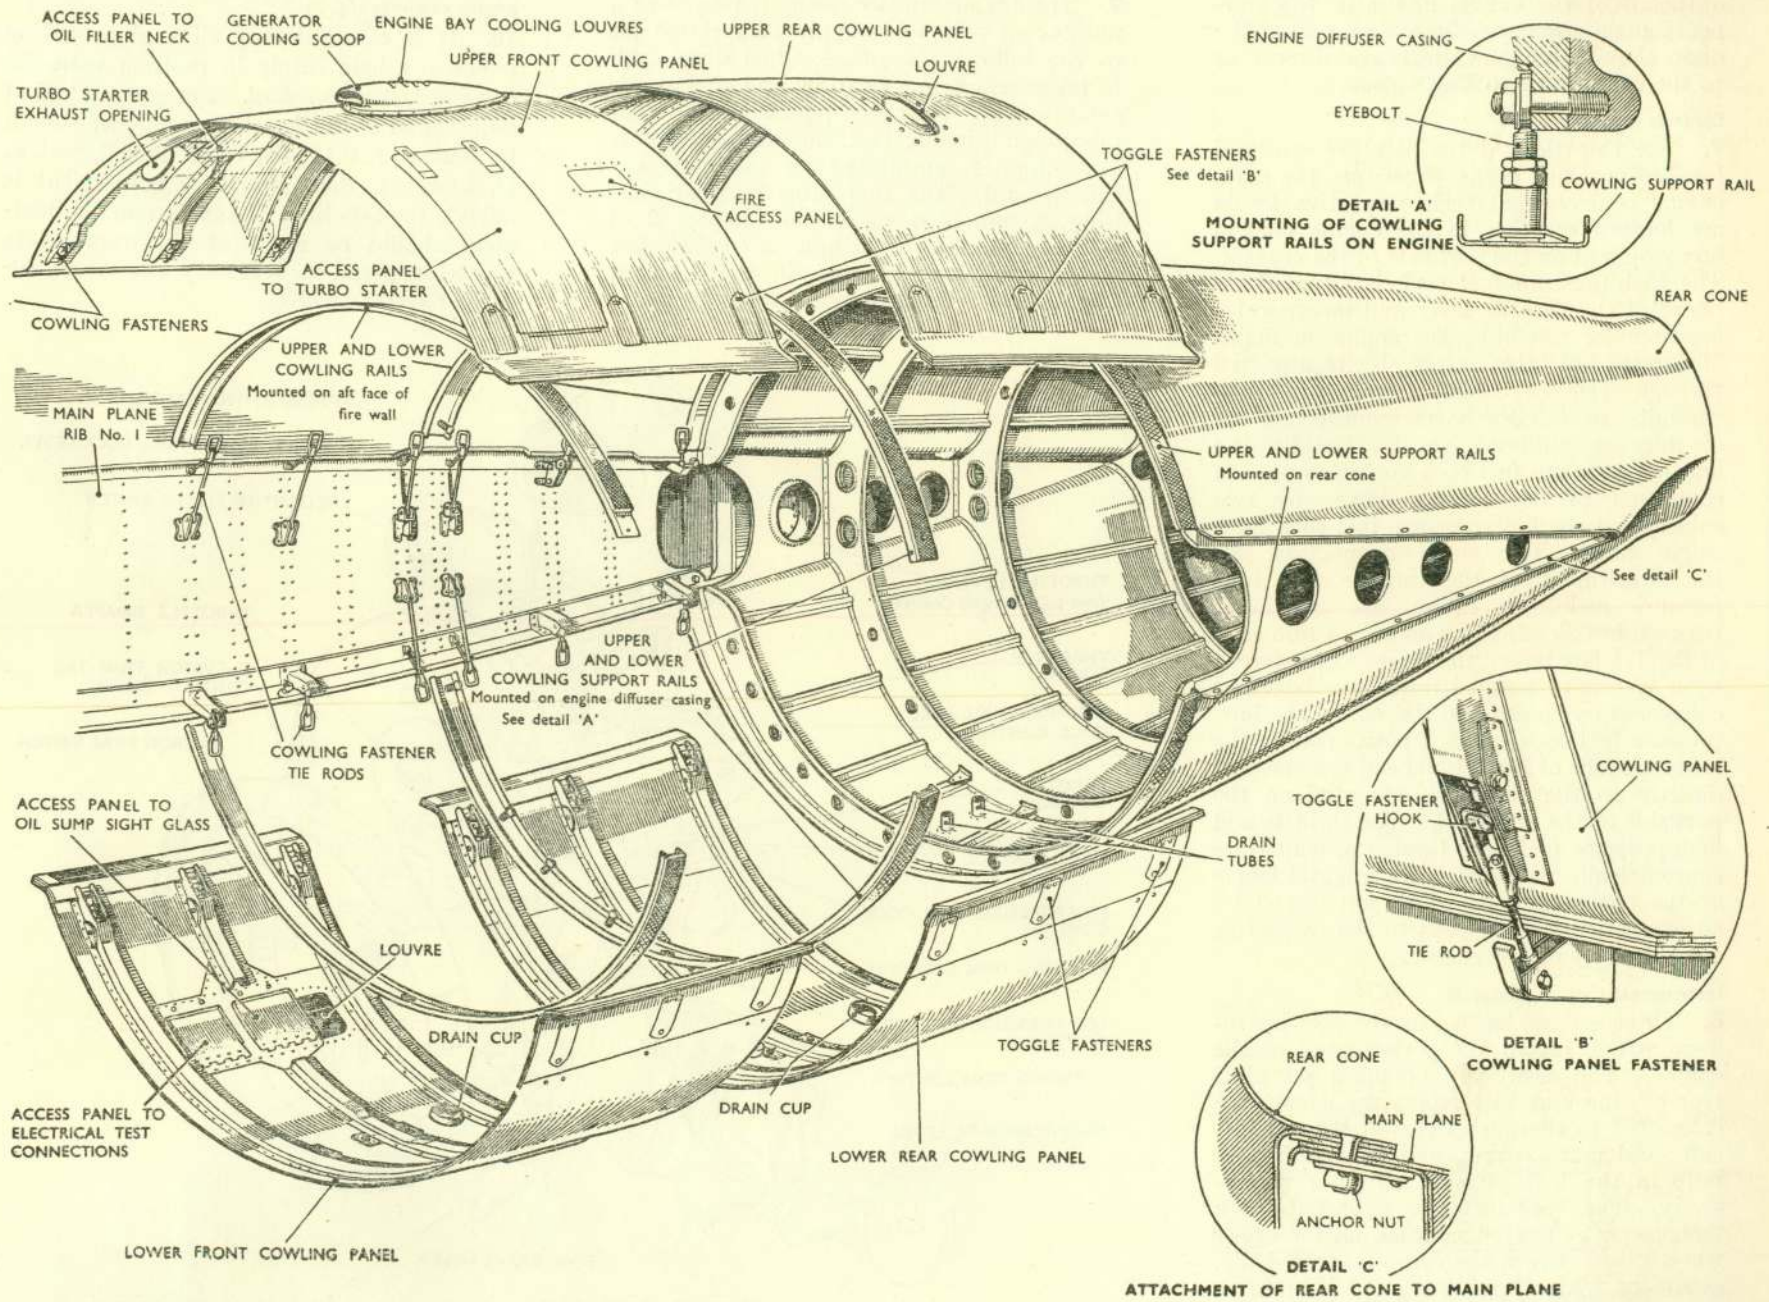
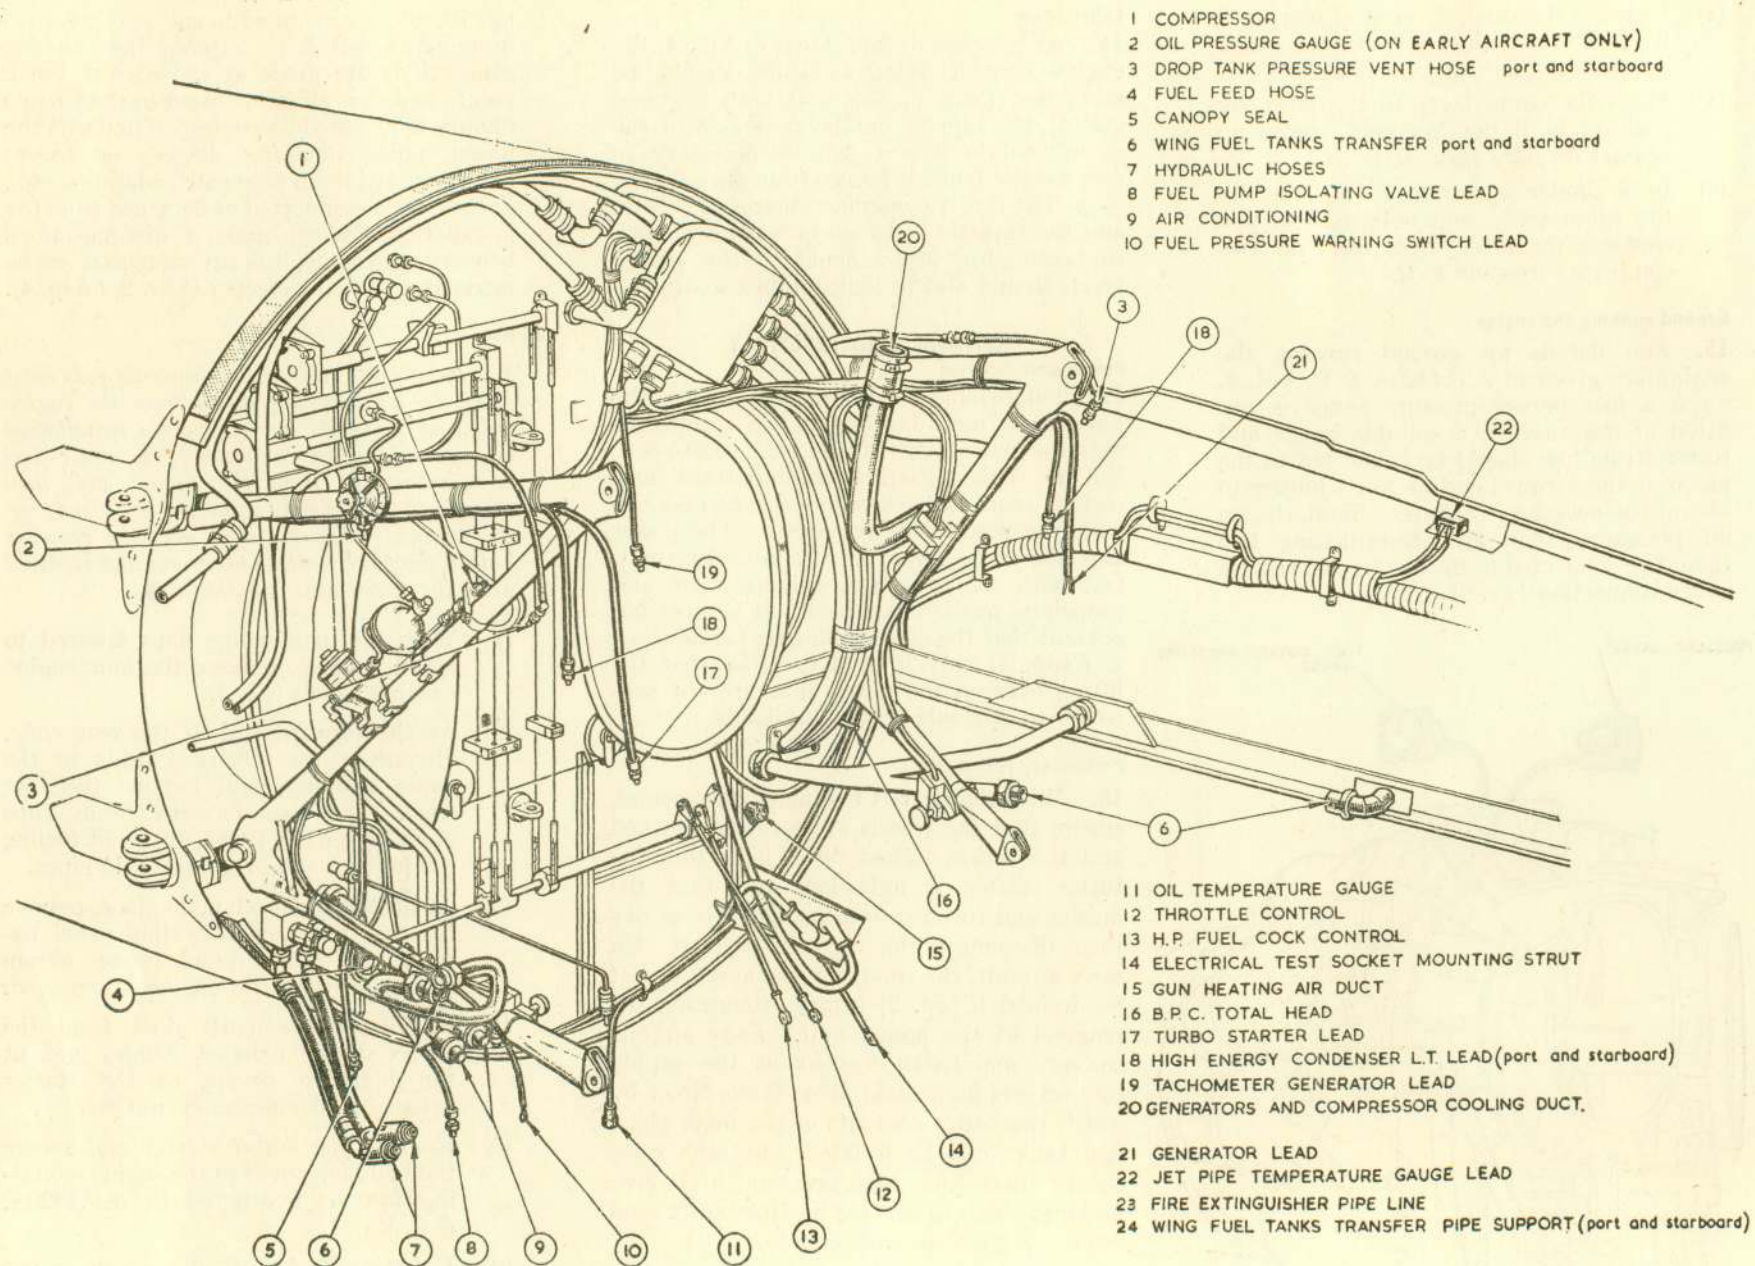

Fig. 3. Engine cowlings
Fig. 10. Break points (I)
### Engine cowlings (fig. 3)
##### Engine cowlings (fig. 3)
- (1) With the main plane flaps lowered to avoid damage, remove the four engine cowling panels (fig. 3).
- (2) At the forward end of the rear cone, disconnect the electrical leads to the flame switches, and remove the rear cone. The two forward drain cups must be removed first, to avoid fouling the jet pipe and fireguard drain pipes.
- (3) At rib No. 1 on each main plane, remove the rear four upper cowling panel tie-rods and hinge brackets to obtain clearance when the engine is removed.
- (4) Remove the exhaust duct from the turbo starter exhaust flanges and fit the blanking covers to the starter exhaust and emergency outlets.
- (5) Remove the turbo starter and secure the blanking cover to the engine mounting face as instructed in A.P.4320A, & C, Vol. 1.
- (6) Referring to fig. 10, disconnect or uncouple all items listed in the key which link the power unit to the airframe at the break points indicated in the illustration.